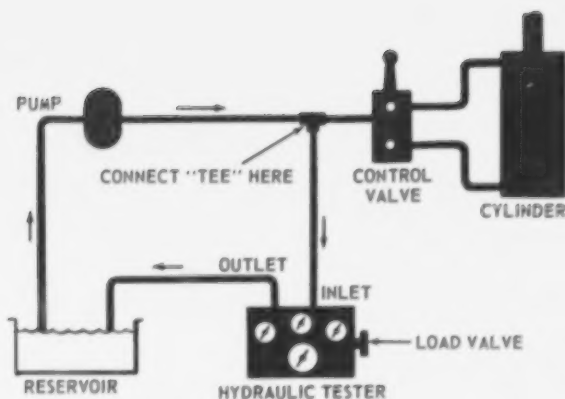

Fig. 31—Testing The System Components
Install a tee fitting in the line between the pump and the control valve and attach the hydraulic tester IN-LET port to this tee (Fig. 31).
6. Slowly close the hydraulic tester load valve and record flow in 250 psi increments from zero pressure to maximum system pressure (Fig. 31).